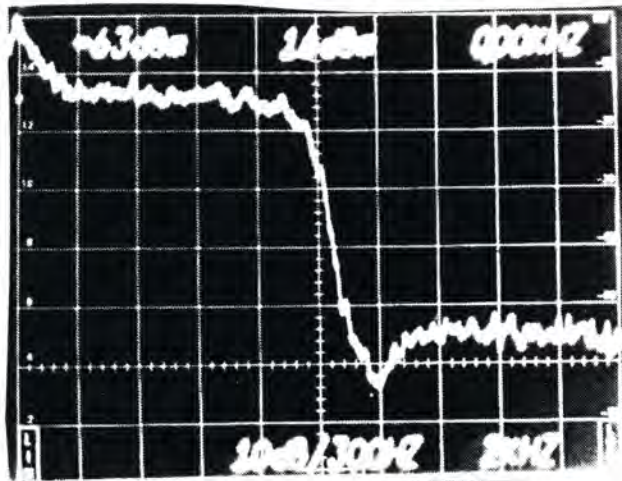

FIGURE 5.2 OUTPUT SPECTRUM OF PMC
5.32 The low pass filter exceeds to the NRSC stopband specification (EIA-549). Refer to Figure 5.2 showing the output spectrum of this PMC450. The filter is composed of L8, L9, L6, L5, L4, L7, L3, C82, C58, C59, C60, and C61. The filter has two possible bandwidth positions using the rear panel **BANDWIDTH** switch S1. S1 is a 6 pole double throw device. When S1 is in the NRSC standard **9.5kHz** position (OUT) all the components in the filter are functional. If S1 is switched to the **11kHz** position (IN) L6 is shorted out. C60 and C61 are floating. C58 and C59 are disconnected from the low side of L5 and switched to the low side of L3. The output of L7 is terminated by R135 and is also connected to a shelving filter composed of R278, R277 and C188. This filter is the final component used to implement the NRSC pre-emphasis. It also minimizes high frequency overshoots in the transmitter.